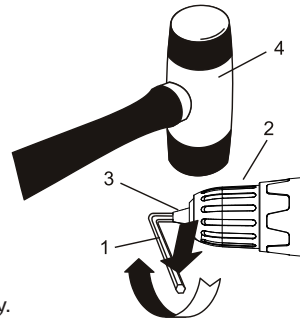

Fig. 16
2. Insert a  $\frac{5}{16}$ " (8 mm) or larger hex key (1) into the chuck (2) and tighten the chuck jaws securely (Fig. 16). Make sure each of the chuck jaws (3) is seated on the flat surfaces of the hex key.
3. Tap the hex key sharply with a mallet (4) in a CLOCKWISE direction. This action will loosen the screw in the chuck for easy removal.